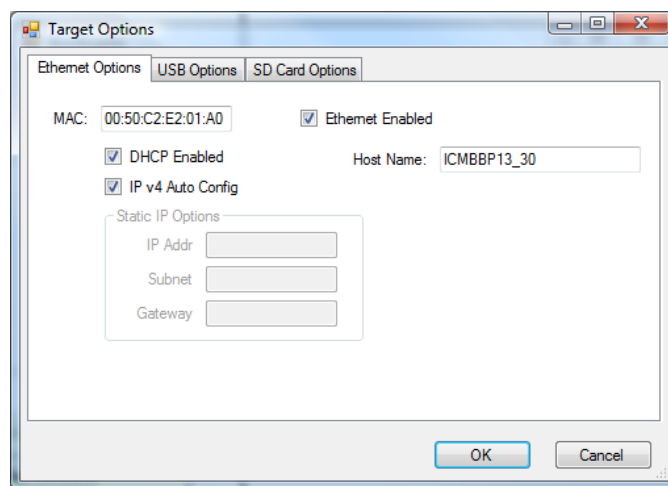

Figure 2-21 - Ethernet Options
8. Click the **TARGET OPTIONS** button. The Target Options window will open. There will be three tabs in this window. Click the **ETHERNET OPTIONS** tab. See Figure 2-21.